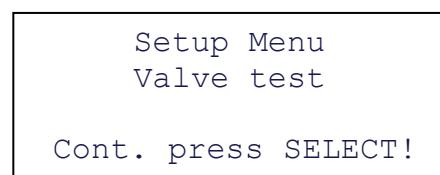

Fig. 10: Setup Menu
7. Press the SELECT button **14** to select the "Valve test" submenu (see Fig. 10).